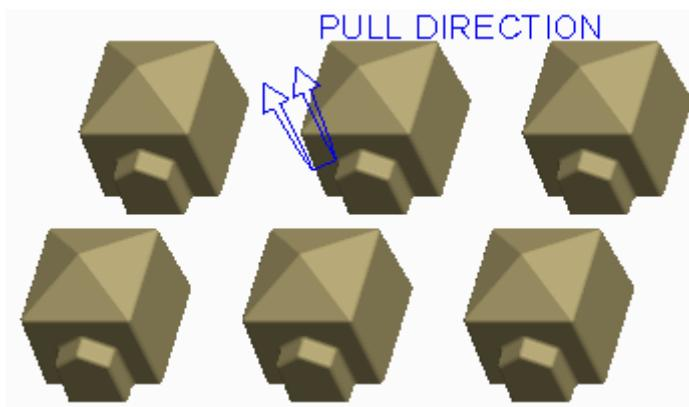

Figure 2 – Rectangular Cavity Mold Model Layout
- Rectangular – Places the reference model in a rectangular layout in the mold model. A Rectangular cavity layout is shown in Figure 2.